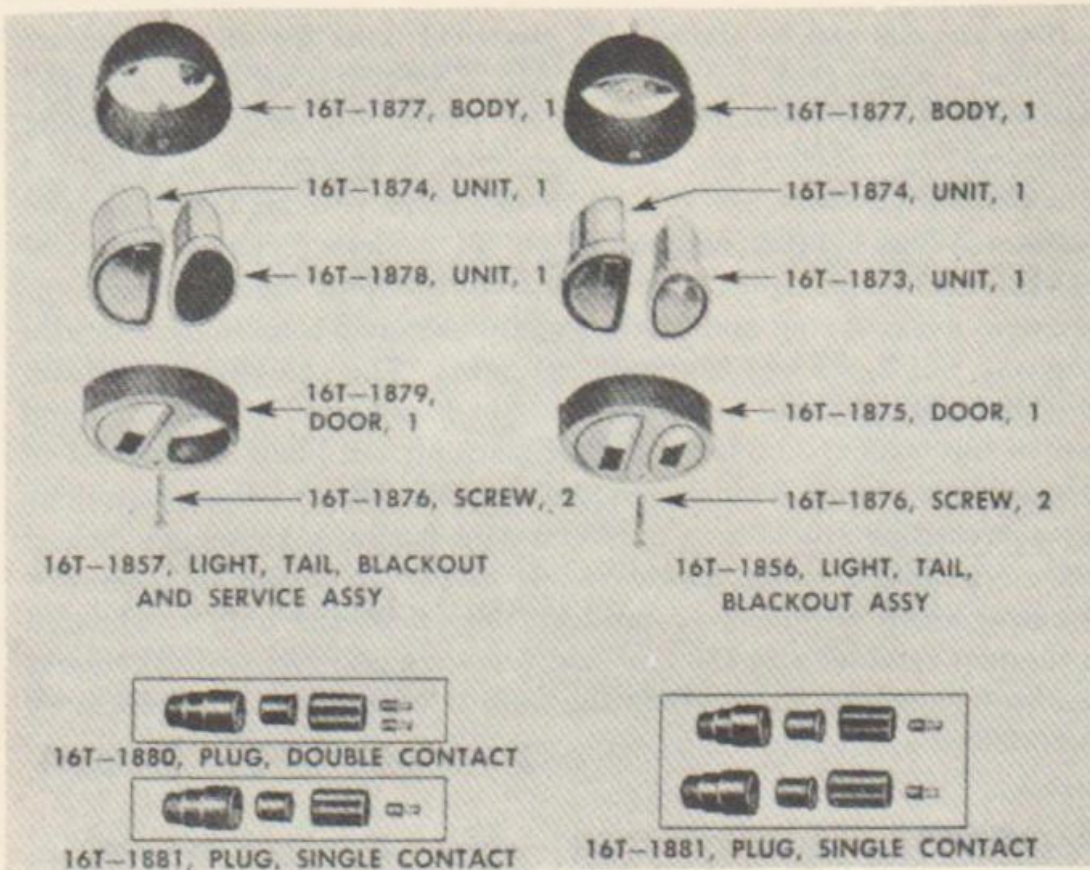

FIGURE 65. TAIL LIGHT—EXPLODED VIEW
a. **Removal** (fig. 65). Pull out cable and remove two nuts and lock washers from studs which hold tail light to mounting bracket.